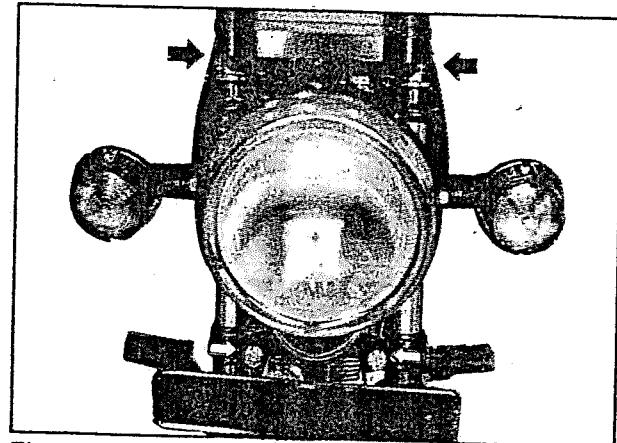

Fig 6.26
- Loosen and remove the front fork cap bolts (fig 6.26)
- Loosen the front fork lower bracket bolts (fig 6.26)